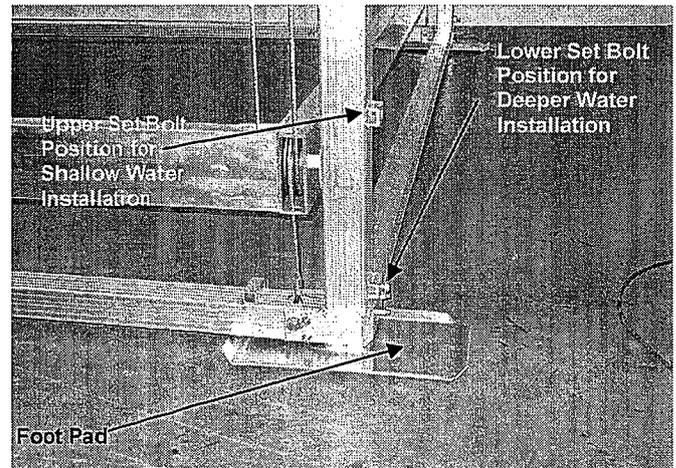

FIG. 35
A leveling foot pad has been mounted at the factory in each of the 4 corners of the lift. The footpads are locked in position by the leg set bolt. (See FIG. 35). The set bolt is mounted in the lower position at the factory. This position is for deeper water installations. The upper position is for shallow water installations. Remount the set bolt if required for your installation. (See FIG. 35).
3. Level the lift by adjusting the footpads accordingly. See FIG. 35.